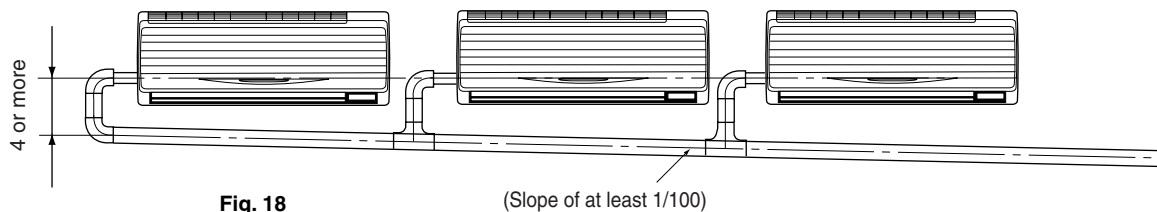

Fig. 18
- In case of converging multiple drain pipes, install them while referring to Fig. 18.